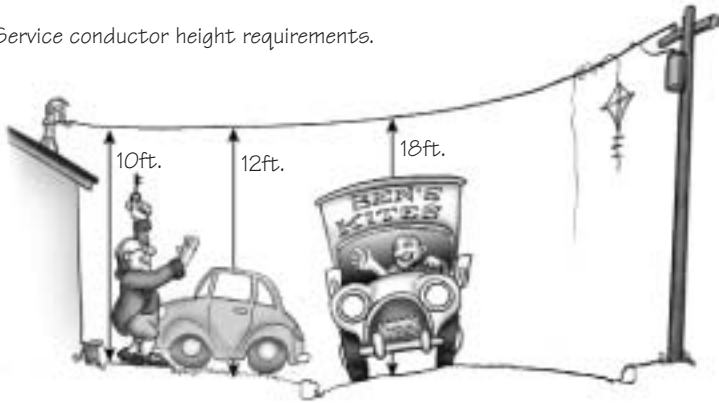

Fig. 33 Overhead Service Clearances
- Above walkway (porch)—10ft.Fig. 33 [230-24b, 90-2c, utility]
- Height requirements**Fig. 33,34,35** [utility]